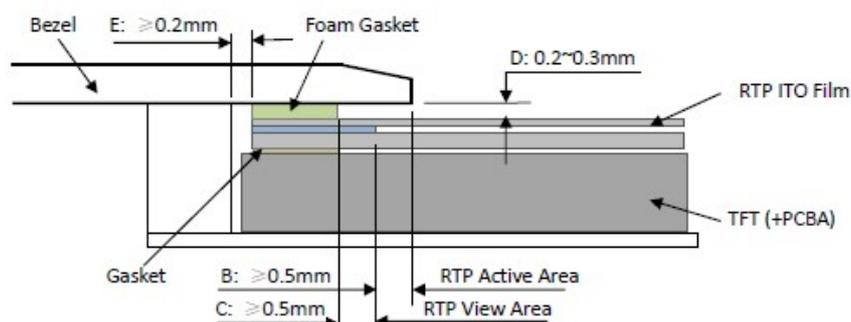

Figure 4
- It should bezel touching the RTP Active Area (A.A.) to prevent abnormal touch.It should left gap $D=0.2\sim 0.3\text{mm}$ in between. (Figure 4)
- Outer bezel design should take care about the area outside the A.A. Those areas contain circuit wires which is having different thickness. Touching those areas could de-form the ITO film. As a result bezel the ITO film be damaged and shorten its lifetime. It is suggested to protect those areas with gasket (between the bezel and RTP).The suggested figures are $B\geq 0.50\text{mm}$; $C\geq 0.50\text{mm}$. (Figure 4)
- The bezel side wall should keep space $E= 0.2 \sim 0.3\text{mm}$ from the RTP. (Figure 4)